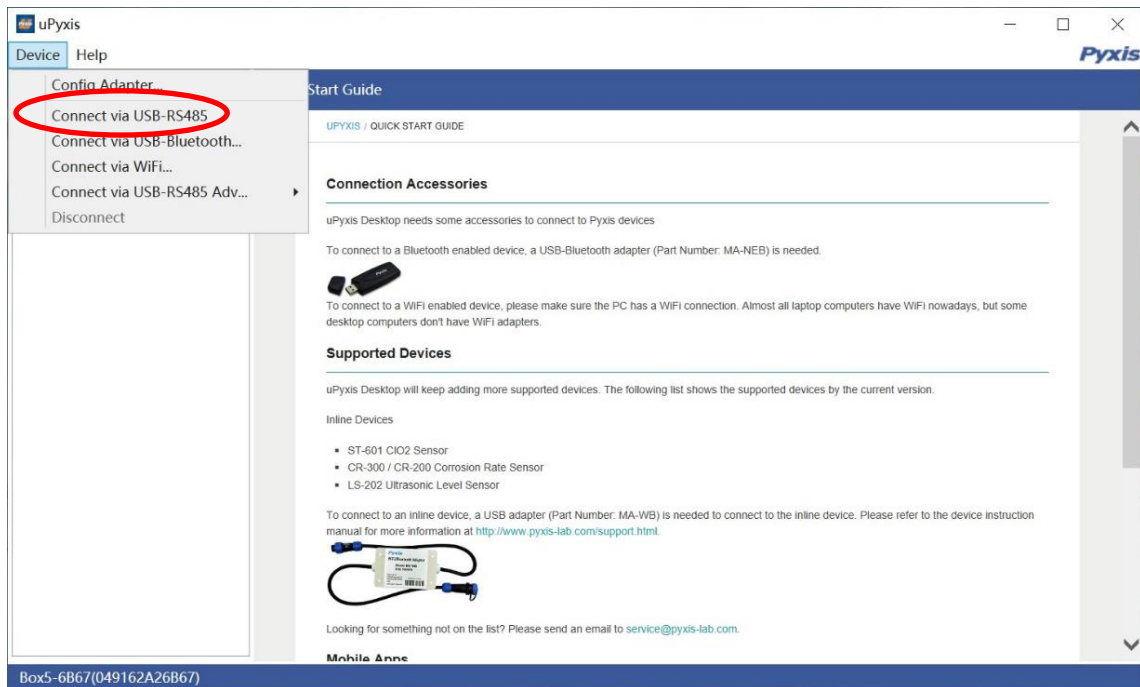

Figure 13 - Connection Options
- 6) Select Connect via USB-RS485 (*Figure 13*).